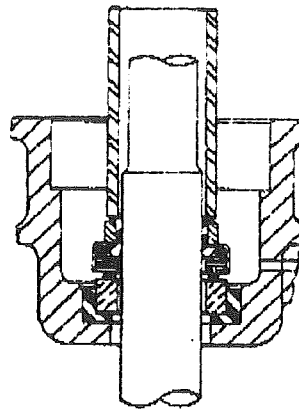
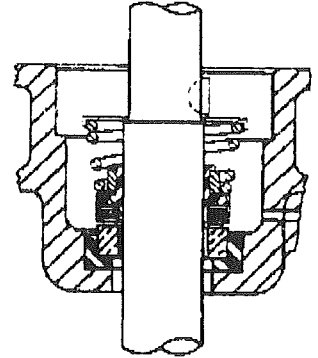

FIGURE 9
FIGURE 10
5. Push the shaft seal and seal spring onto the shaft, after being sure that the seal faces are clean, Figure 9. Place the spring holder on the spring, Figure 10. Slide the first impeller onto the shaft and the impeller spacer. Place volute gasket, lining up the bolt holes in the gasket with those on the adapter. Be sure the gasket is placed right side up, so the water passage holes line up properly.